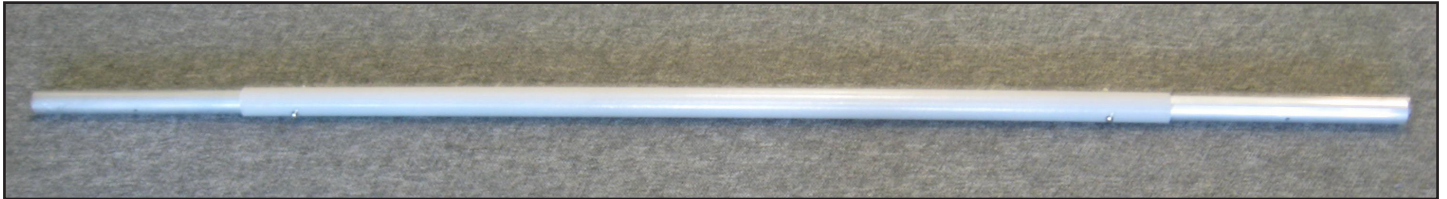

Fig. 9
**This completes the Center Boom Sub-Assembly, Fig. 9. Place this sub-assembly aside for use later.**